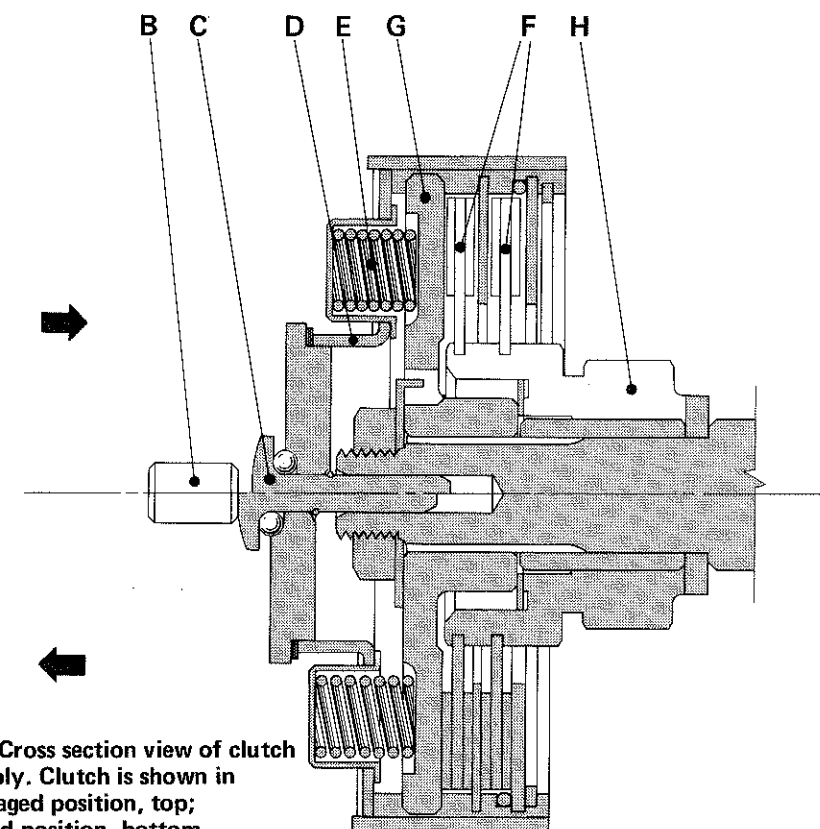
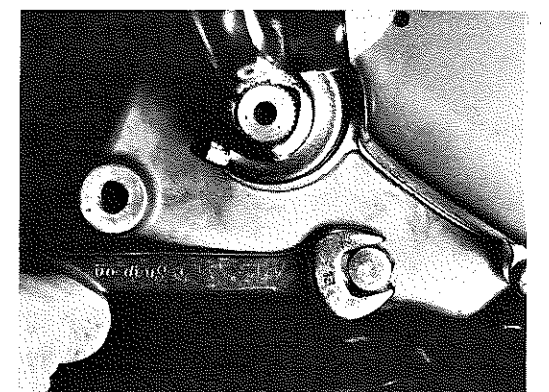
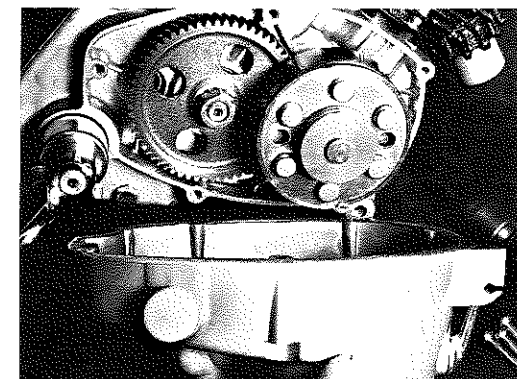
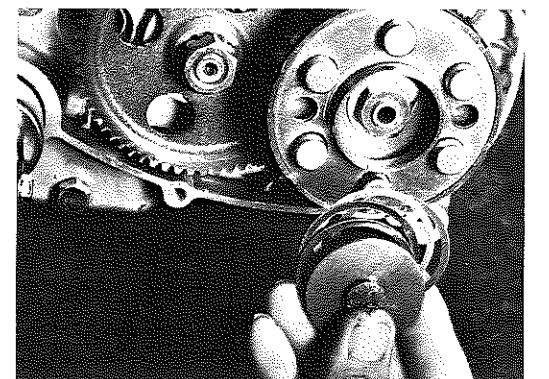

Fig. 4 Cross section view of clutch assembly. Clutch is shown in disengaged position, top; engaged position, bottom.
Fig. 8 Transmission drain plug location.
Fig. 9 Removing clutch side cover.
Fig. 10 Removing clutch disc and spacers.
Pulling the handlebar lever towards the handlebar causes the clutch lever to rotate in the clutch side cover. Referring to Fig. 4, note that as the cam-ended clutch lever turns, it pushes the clutch pressure piece (B), clutch release bearing (C), and clutch housing (D), towards the engine. This action compresses the clutch springs (E), and relieves tension from the friction discs (F), allowing clutch hub (G) to rotate free from the pinion gear (H).
It may become necessary to adjust clutch lever travel if: 1) Distance between top of clutch lever claw and underside of clutch adjuster boss on clutch side cover is less than one inch [with free play taken up]. 2) Distance between clutch lever claw and adjuster screw boss exceeds $1\frac{1}{4}$ " [with free play taken up]. To adjust clutch lever free play, begin by tying down kickstarter lever in some fashion to prevent its returning to the rest position. Next remove cable assembly by slacking off lower adjusting screw, lifting clutch lever slightly, slipping ball-ended inner cable free of lever claw and finally unscrewing adjuster from casting. Drain transmission, using 13mm socket to remove drain plug on the lower right side of engine case (Fig. 8). Using a large Phillips bit in hammer driver tool, remove the five Phillips head clutch side cover mounting screws. If the side cover fails to come away easily, tap around its outside edges with a soft mallet. After removing side cover (Fig. 9), be sure to recover the clutch pressure piece (Fig. 4 item "B") setting it safely aside until reassembly. Finally, lift off clutch disc and disc spacers from clutch cover (Fig. 10).